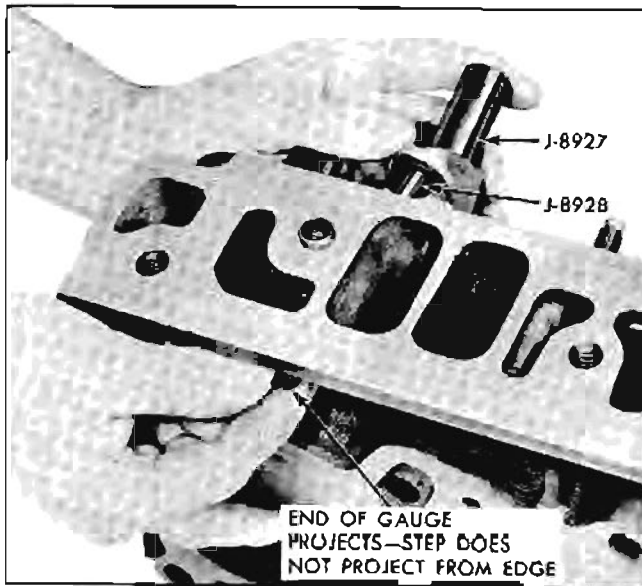

Fig. 6-31 Checking Stud Height
12. With valve seated, slowly press rocker arm stud into cylinder head until gauge projects about midway between the end of the gauge and the step with respect to the gasket surface of the cylinder head (Fig. 6-31).
a. Position rocker arm on stud and hold in place using Rocker Arm Stud Installer J-8927. Slip valve into place and hold it against valve seat. While holding rocker arm and valve in position securely, insert Valve Train Gauge through push rod hole and seat snugly in push rod seat of rocker arm (Fig. 6-31). With all parts seated, step end of gauge should be at least flush with gasket face of head, but should not project past the step on the gauge.